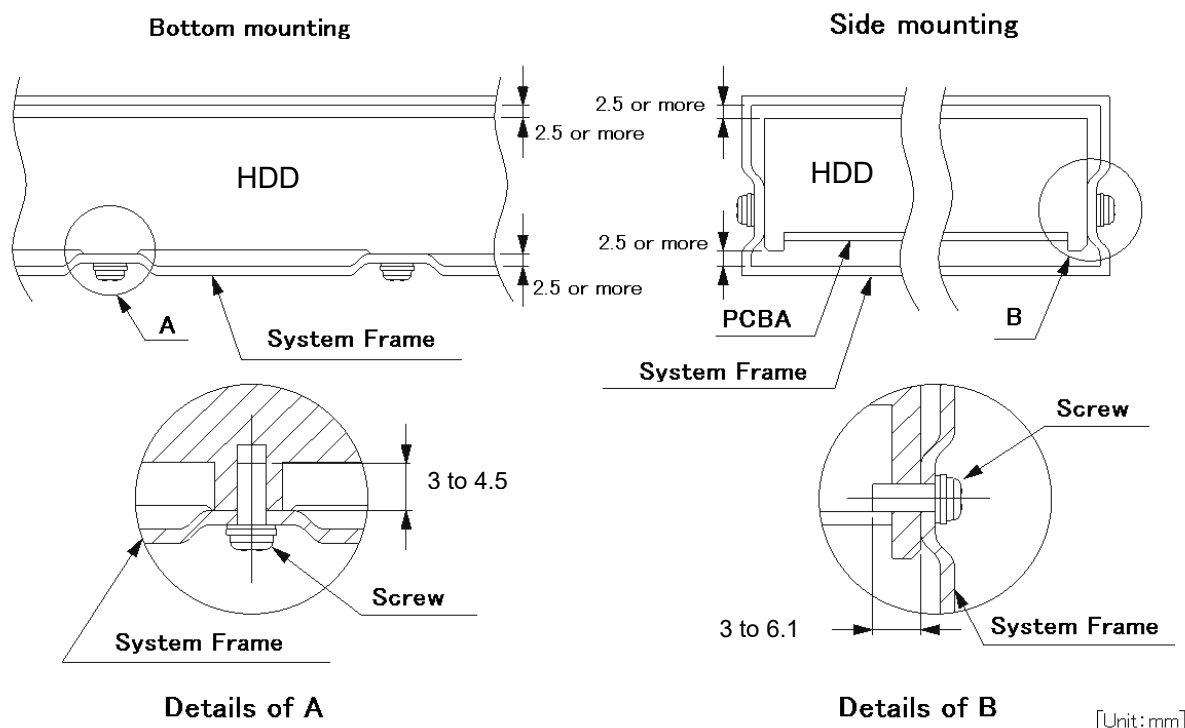

Figure 3.3 Mounting frame structure example
- a) The frame shall not touch the PCBA of the HDDs. For example as shown in Figure 3.3, mount the HDDs with a gap of 2.5 mm or more from the frame.
- b) As shown in Figure 3.3, the inward projection of the screw from the HDD frame wall at the corner must be 3 to 4.5 mm on the bottom mounting, 3 to 6.1 mm on the side mounting.